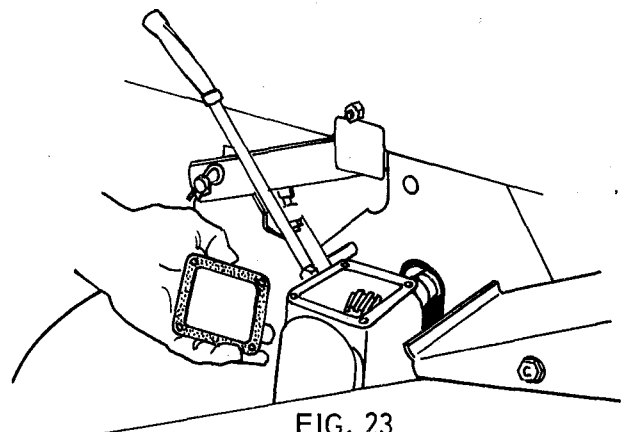

FIG. 23
2. To check, remove gear box cover by unscrewing 4 screws. See Figure 23.